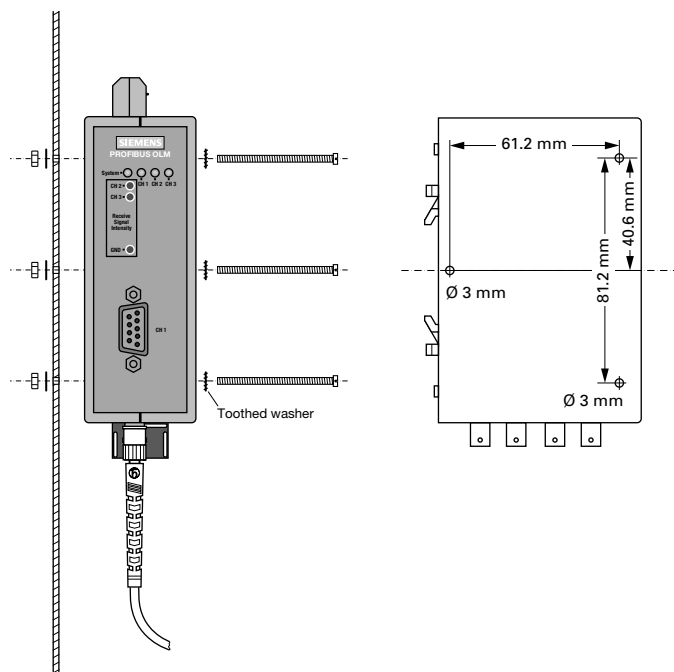

Fig. 8: Mounting a module on a mounting plate
- ▶ Drill three holes in the mounting plate corresponding to the drilling template in Fig. 8.